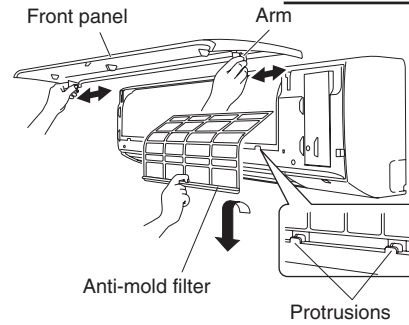

Fig. 1-155
If the front panel is difficult to remove, grasp both ends of it and lift it up slightly. Move it to the left and disengage the left arm, then move it to the right and disengage the right arm. (Fig. 1-155)
- (2) Lift the anti-mold filter up slightly to disengage it from the protrusions on the unit, and then pull downward to remove the filter from the unit. (Fig. 1-155)